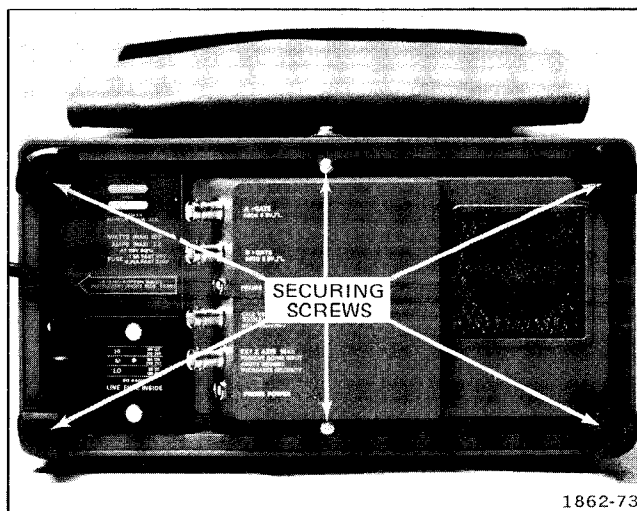

Fig. 4-1. Removing the standard cabinet.
4. Remove the 6 screws indicated in Fig. 4-1 and remove the rear cabinet frame with feet and screws from the instrument as an intact assembly.